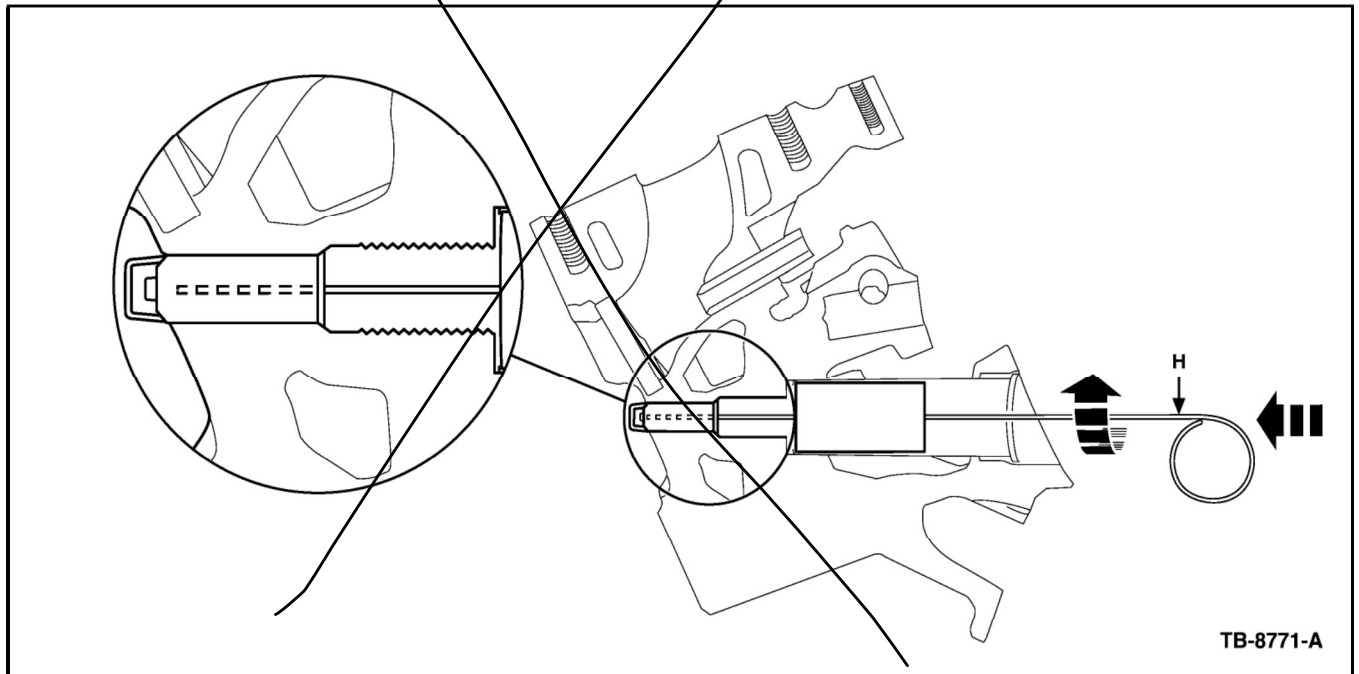

Figure 18 - Article 08-7-6
- Insert applicator into the porcelain and move applicator up and down 1/2" (13 mm) while turning to spread the Loctite® 638™ on the inside of the porcelain. (Figure 18).